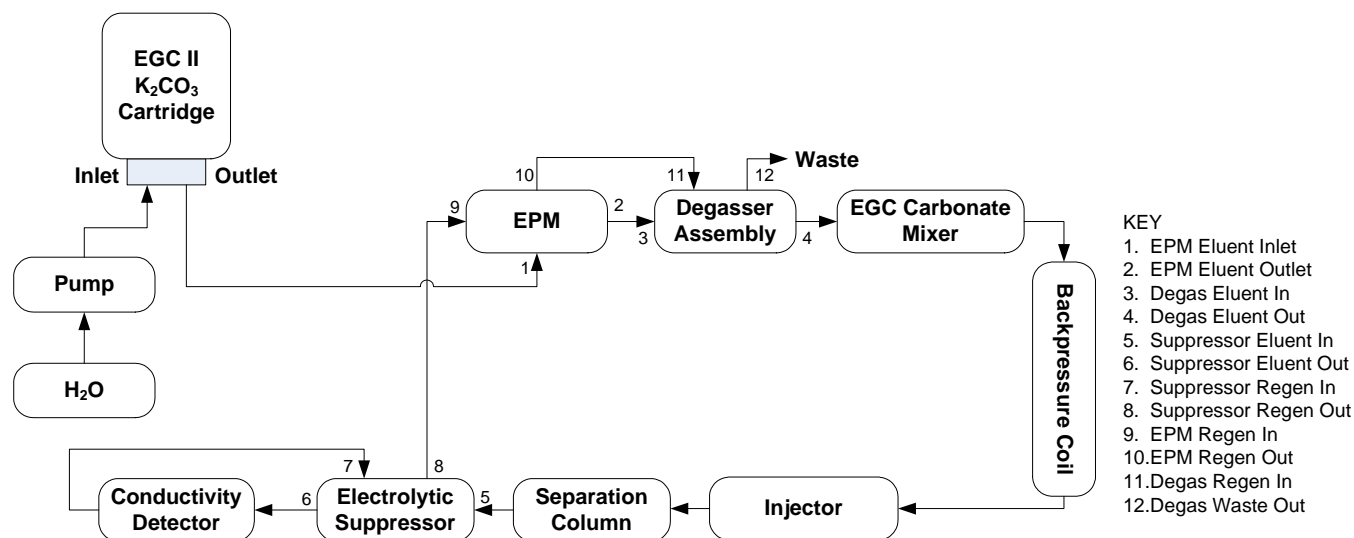

FIGURE 10
1. Complete the entire system plumbing as shown in Figure 10 for your application.
For applications using EGC II K₂CO₃ only for generating K₂CO₃ eluents, complete the entire system plumbing as shown in Figure 7. For applications using EGC II K₂CO₃ and EPM for generating K₂CO₃/KHCO₃ eluents, complete the entire system plumbing as shown in Figure 10. Adjust the length of the backpressure tubing between the INLET of the injection valve and the OUTLET of the EGC Carbonate Mixer if needed to ensure the system backpressure falls between 2000 – 2300 psi at the system operation flow rate. Connect the REGEN OUT port of the suppressor to the REGEN IN port of the RFIC ELUENT Degasser Assembly when using EGC II K₂CO₃ only. Be sure to connect the REGEN OUT port of the suppressor to the REGEN IN port of the EPM when using EGC II K₂CO₃ and EPM. Turn on the pump and set the flow to the rate recommended for your application. Start operating the Electrolytic K₂CO₃/KHCO₃ Eluent Generator at the desired K₂CO₃/KHCO₃ concentrations for your application.